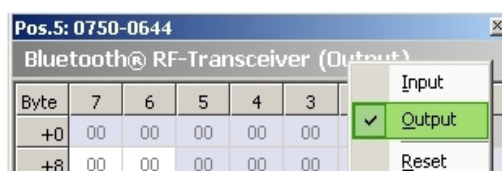

Figure 53: Display *Bluetooth*[®] output data
4. In the context menu, choose **Output Data** (see Figure 53).